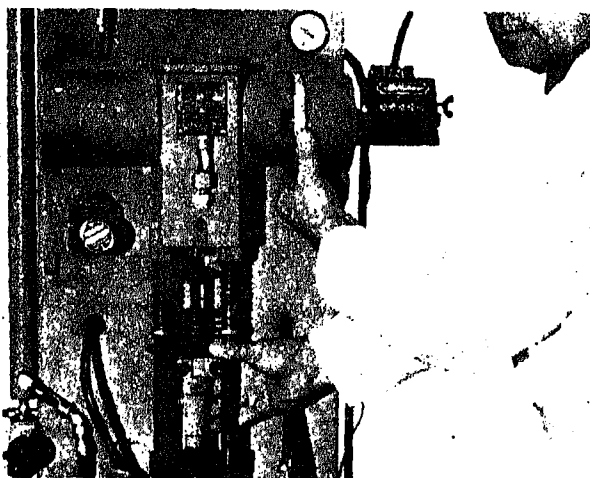

Fig. 6-1-47. Timing wheel
4. Before clamping the injector in the test stand the cam must be timed by rotating the timing wheel so the wheel mark and pointer are aligned. Fig. 6-1-47.